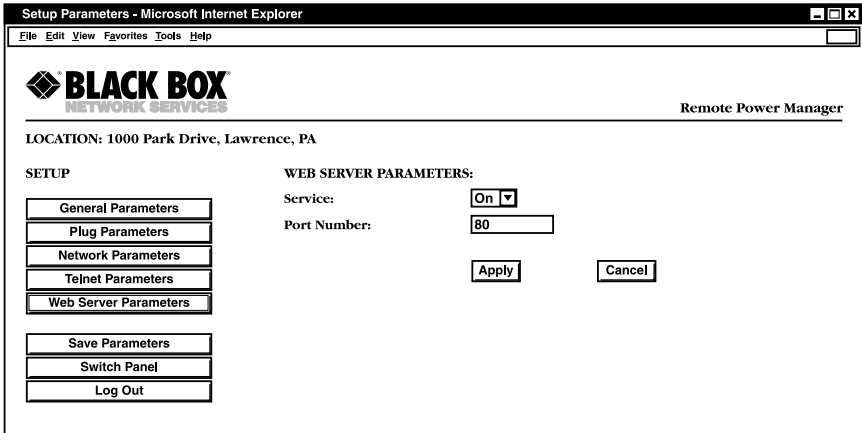

Figure 4-14. Web Server Parameters menu—Web browser interface.
- **Web browser interface:** Click on the **Setup** button to access the configuration menus, and then click on the **Web Server Parameters** button. The Web Server Parameters menu will appear (Figure 4-14). Once you select the appropriate menu options, click on **Apply** to save the settings or **Cancel** to start over.